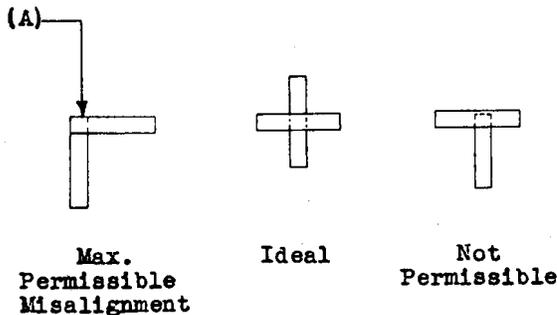

Fig. 1 - Alignment of Contacts - Plan View of Contacting Surfaces
(a) Fig. 1 (A): The contacts shall line up so that the width of the contacting surface of each contact bar falls wholly within the length of its mating bar. Gauge by eye.